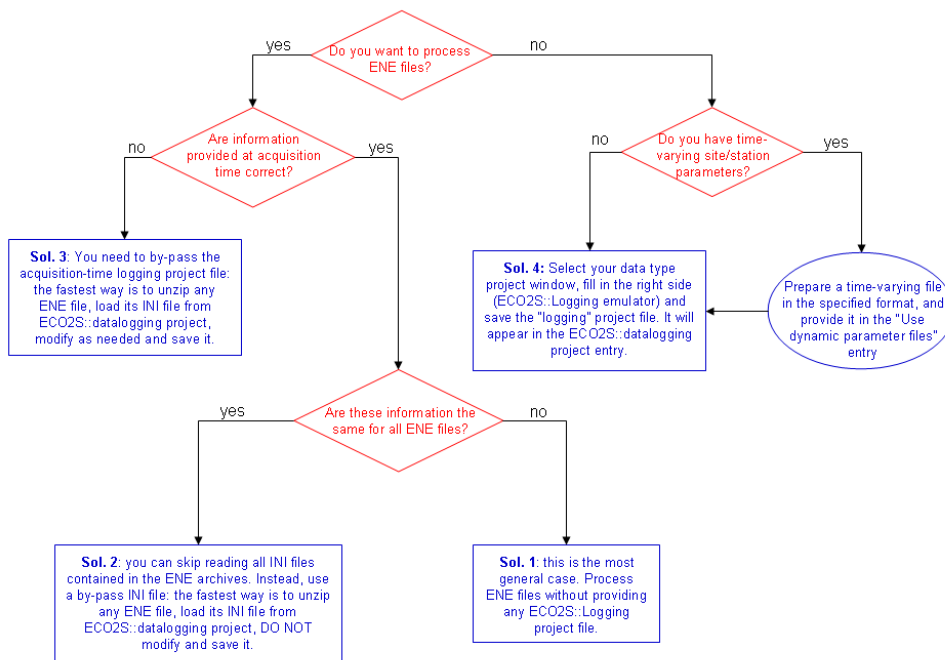

Figure 3: Decision tree at **ECO₂S** project window, depending on raw file type and availability of time-varying parameters information
If you want to process ENE files in the standard way, your job here is finished and you can **skip** to the next phase (Figure 3, Sol. 1) . Otherwise, select the relevant data type. In this case, the right side of the GUI will activate: this is the **ECO₂S::Logging** emulator: here, you must enter all the information relevant to the site, station, setup used to acquire the data you are going to process. This interface is basically that of **ECO₂S::Logging**, and it is pretty much the same as the latest interface of **ECO₂Catch** (ver.0.9.8). Refer to Appendix B for a brief introduction to **ECO₂Catch**. Note that, once you have entered all mandatory fields here, you must save the corresponding **ECO₂S::Logging** project file, and this will appear in the **ECO₂S::datalogging project** entry (Figure 3, Sol. 4). Alternatively, if you already have an **ECO₂S::Logging** project file, you can load it and then check on the right side that all information have been properly imported and modify as needed.
- when ancillary information stored in ENE files must be ignored because incorrect or incomplete (Figure 3, Sol. 3);
- when all ENE files contain the same ancillary information, that can thus be read only once, to speed up the data processing operation (Figure 3, Sol. 2).